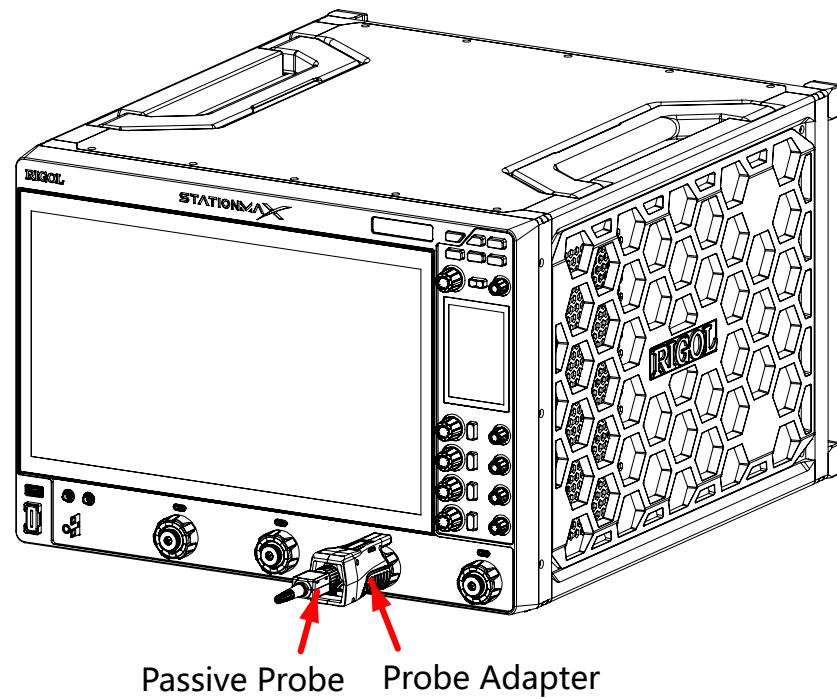

Figure 4.4 To Connect the Passive Probe
1. Connect the BNC terminal of the probe to an analog channel input terminal on the front panel of the oscilloscope, as shown in *Figure 4.4*.